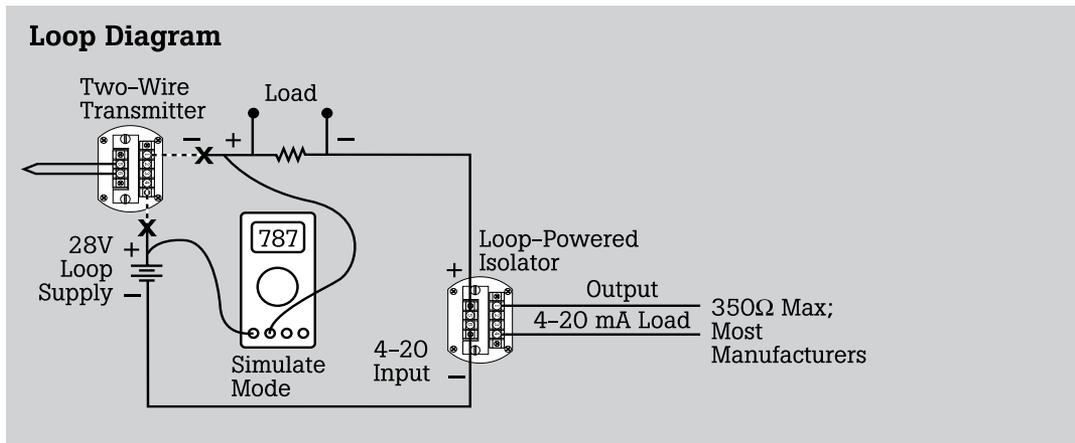

Figure 2.
When field checking a loop-powered isolator, the two-wire loop transmitter supplying signal current to the isolator for the loop may be removed and the Fluke 787 connected in simulate mode to control loop current (Figure 2).
1. Disconnect the main loop transmitter and connect the Fluke 787 to the loop with the test leads plugged into the "Simulate" terminals of the 787 (see Figure 2).
3. Place a Fluke 87, set in the mA measurement mode, in the output side of the isolator to monitor output current (see Figure 2).